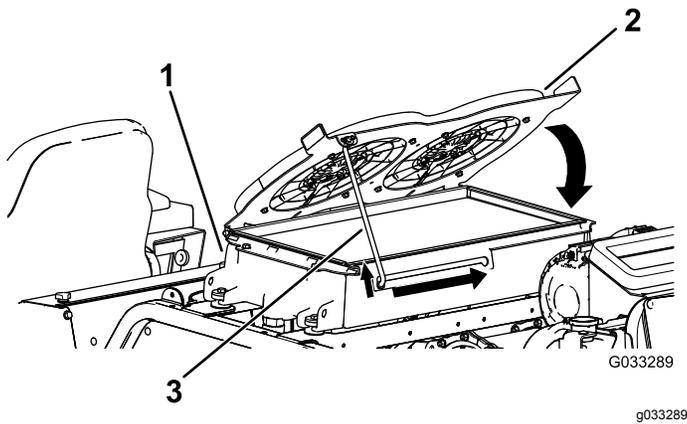

Figure 123
4. Pivot the hydraulic-cooling fans downward and lock the prop rod into the notch (Figure 123).